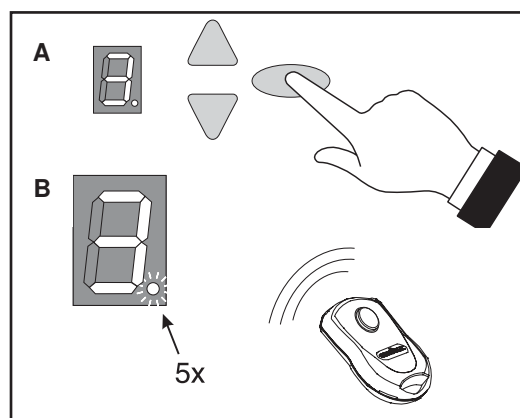

Figure 12 Programming Start Function.
- A** Briefly press button D. **Figure 12.**